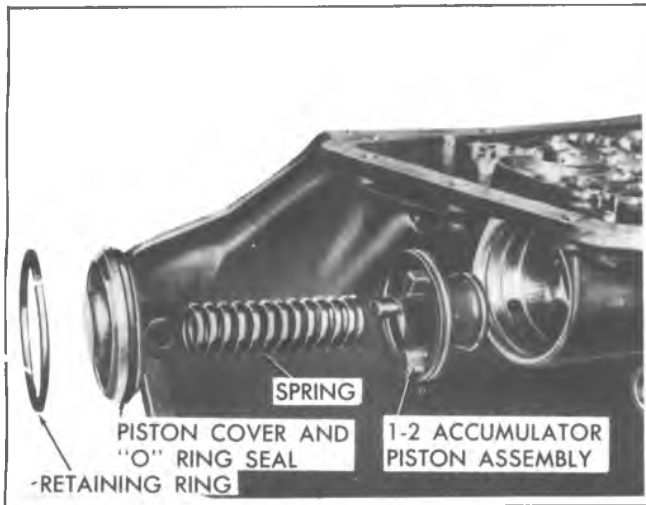

Fig. 7A-54B—Intermediate Clutch Accumulator Components
29. Remove intermediate clutch accumulator piston assembly (fig. 7A-54B).